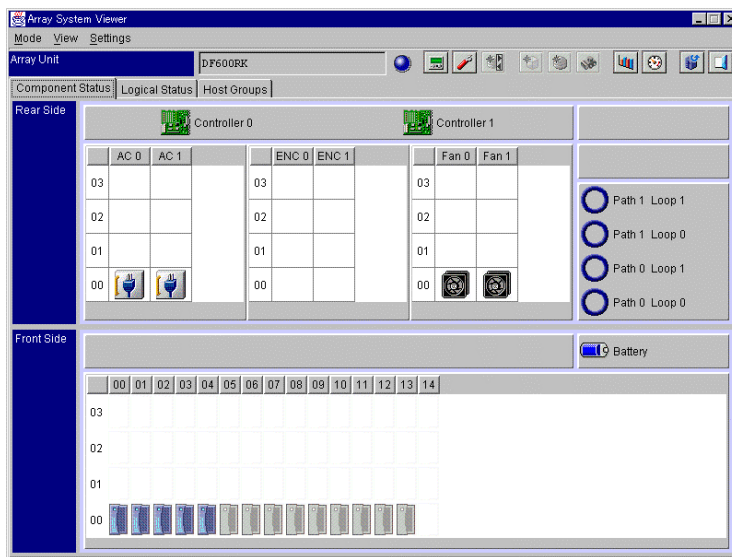

Figure 4.1 Array System Viewer Panel
2. Register the array unit in which you will want to set SANTinel 9500V and connect to this array unit. The Array System Viewer panel appears (see Figure 4.1).
2. Register the array unit in which you want to delete SANTinel 9500V and connect to this array unit. The Array System Viewer panel appears (refer to Figure 4.1).
2. Register the array unit in which you want to change SANTinel 9500V and connect to this array unit. The Array System Viewer panel appears (refer to Figure 4.1).